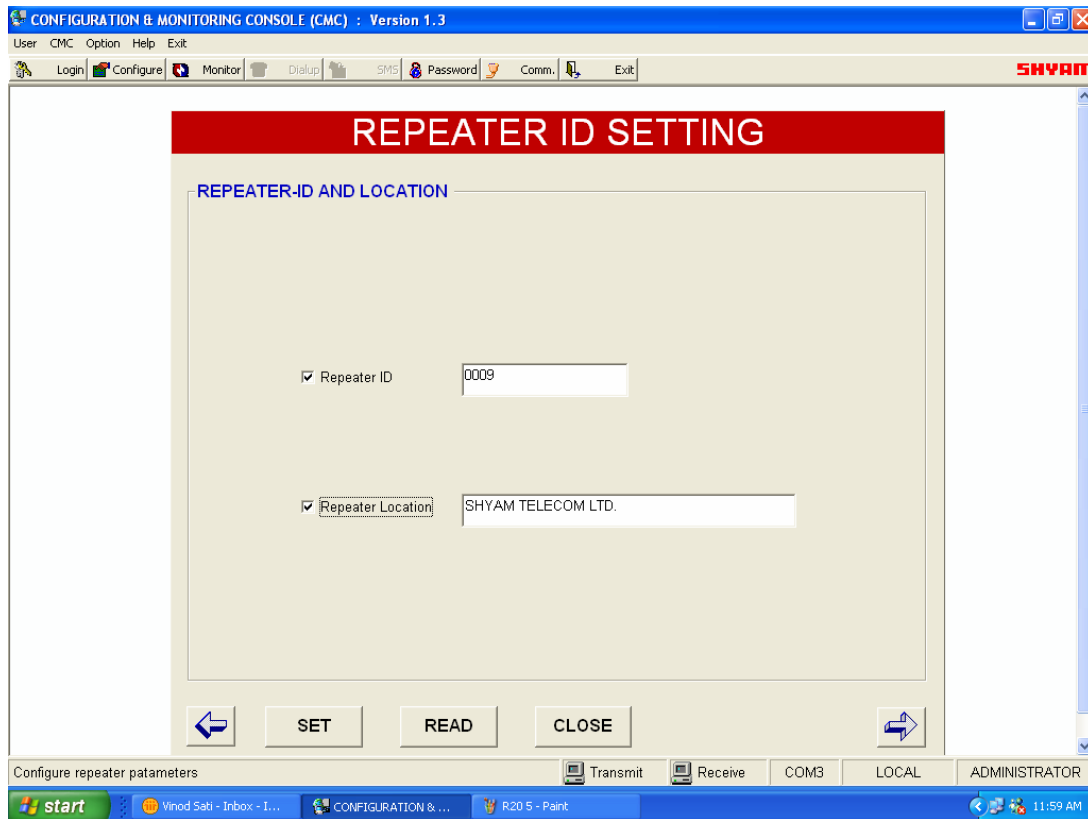

Figure 5: Repeater ID Settings
a) Repeater ID (Figure 5)
b) Repeater Location (Figure 5)